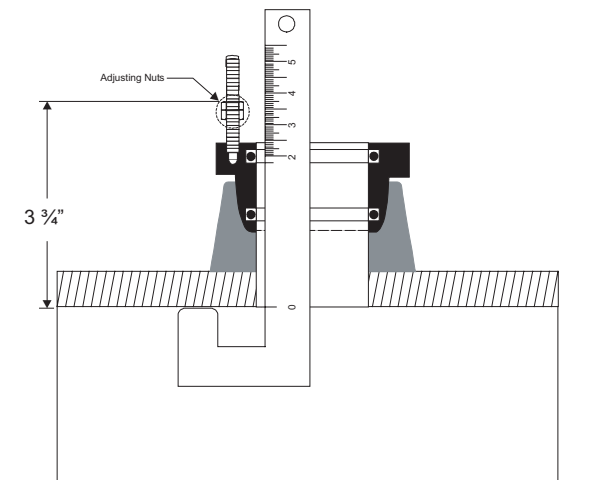

Figure 1: Installation for 220BR and 220SS
2. Insert the depth gauge into the mounting adapter and set it against the inside wall of the pipe as shown in *Figure 1*. Set the top of the upper adjusting nut to 3-3/4 inches (95 mm) as measured. Lock it in place with the bottom nut on the same stud. Repeat for the other adjusting nuts.